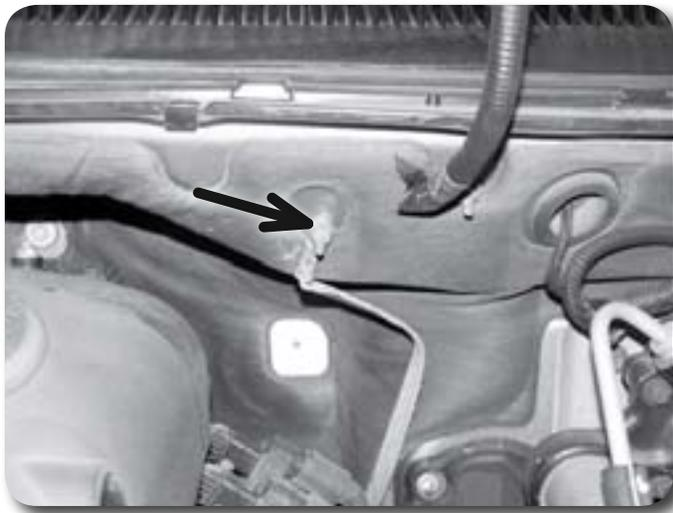

Figure 6
9. Disconnect the ground strap from the driver's side firewall Figure 6. Save nut.